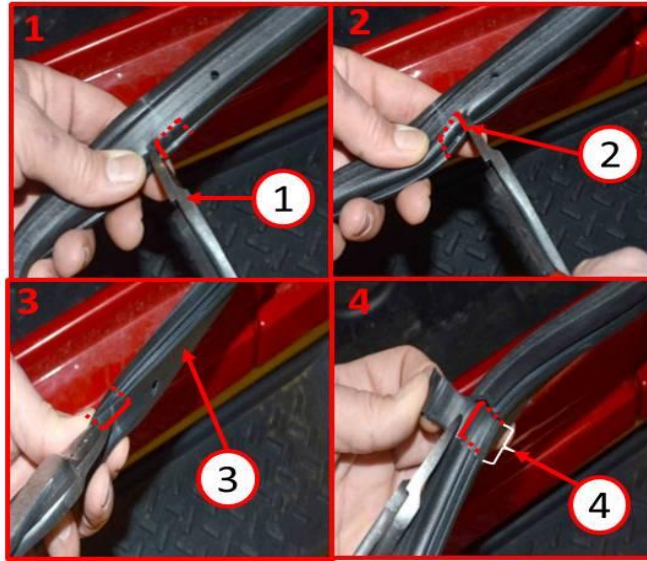

Fig. 4 Seal Modification
3. Locate the mark (1) made in Step #1 on the door seal, below the lower door panel fastener, and designate it as the center of the notch (3) which should be approximately 5/8" (16mm) wide (4) (Fig. 4).
4. Using diagonal cutters, (2) cut approximately 1/4" (6mm) into the outer door/"wet side" of the seal on either side of the seal center mark (1) outlined in top pictures 1 & 2 of (Fig. 4).
5. Connect the two cuts from Step #4 by cutting along the bottom side/door bulb side of the seal as outlined in picture 3 of (Fig. 4)
6. Connect the two cuts from Step #4 by cutting along the top side/door channel "flat side" of the seal as outlined in picture 4 of (Fig. 4)